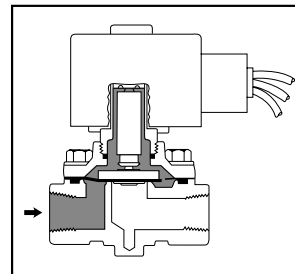

Figure 2A: Pilot Operated, Normally Closed Valve, De-Energized
#### Internal Pilot Operated Valves (Figures 2A, 2B)
- Floating diaphragm or piston which requires a minimum pressure drop across the valve to remain in the open position (Figures 2A, 2B).